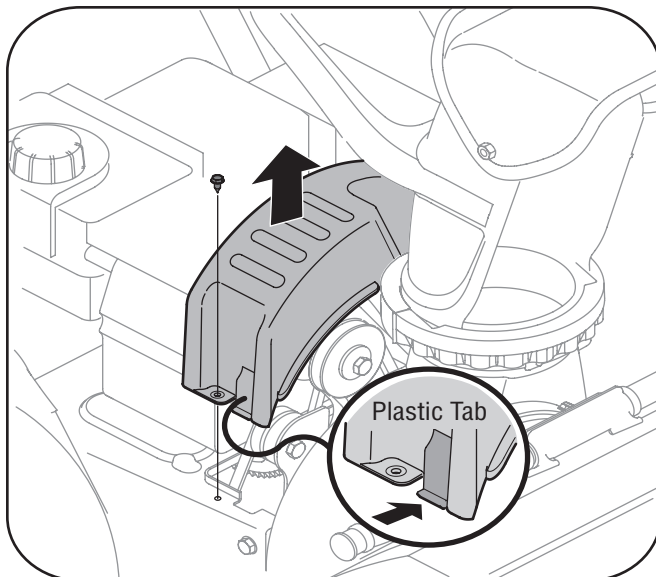

Figure 7-1
3. Remove the self-tapping screw shown in Fig. 7-1, and press the plastic tabs to release the belt cover. Pull the belt cover up and out from around the engine and chute assembly. Set it aside and save.